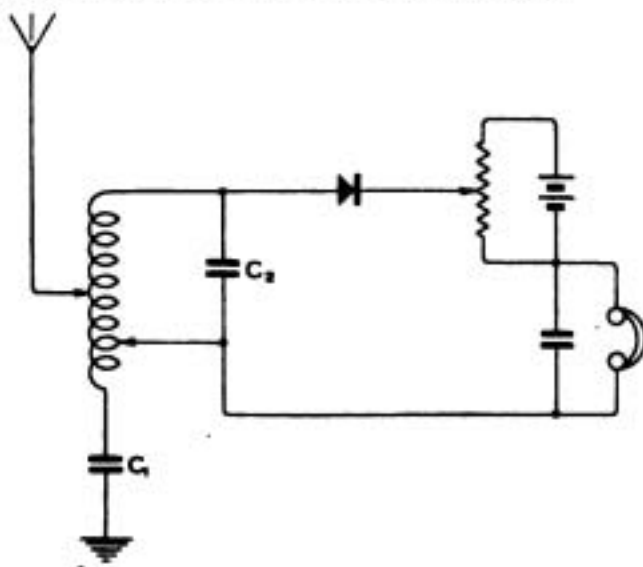

Fig. 5.
**F.H.B. (Liverpool)** asks (1) For connections for a set using certain apparatus. (2) The necessary capacities for the condensers. (3) An opinion of the merits of the set.
(1) Connect as in the diagram (Fig. 5).